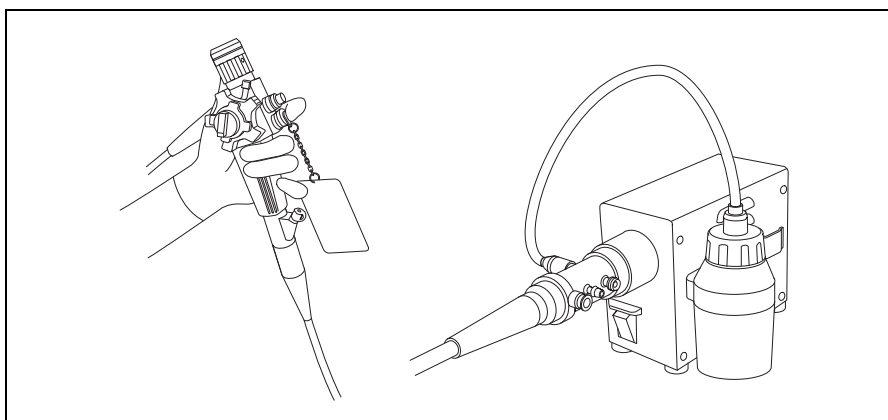

Figure 4.1
2. Depress the button on the AW Channel Cleaning Adapter for approximately 10 seconds to irrigate the channel with 70% ethyl or isopropyl alcohol (see Figure 4.1).